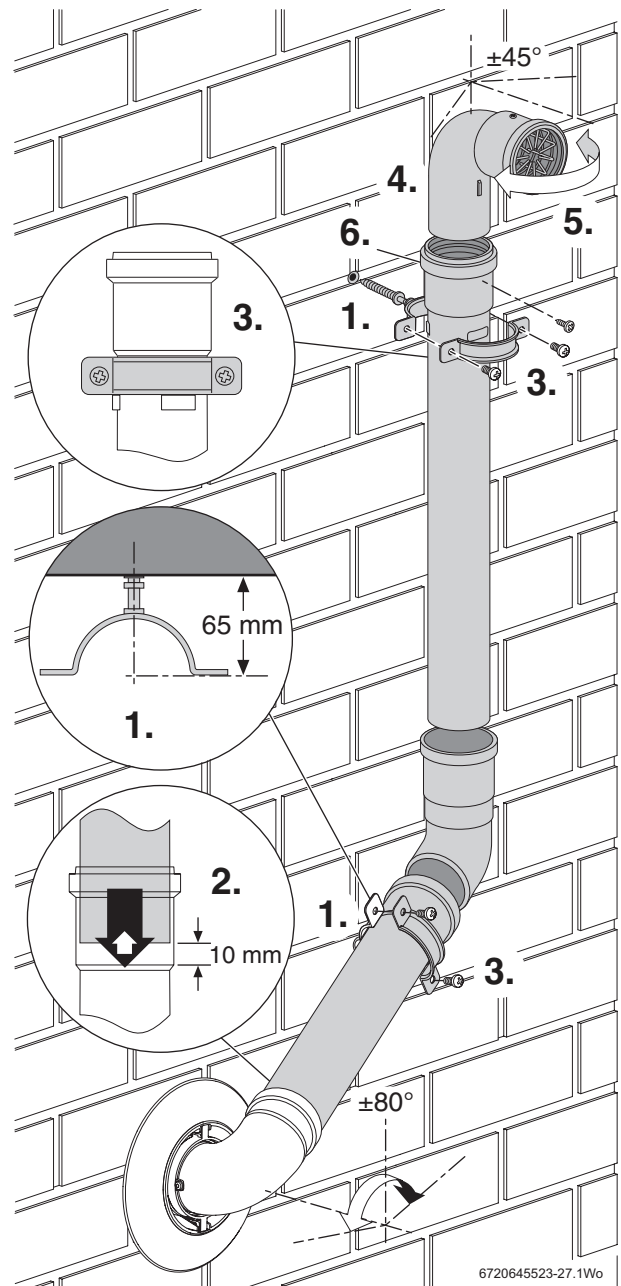

Fig. 47 Plume extensions
- Refer to figure 47 and assemble the plume extensions.